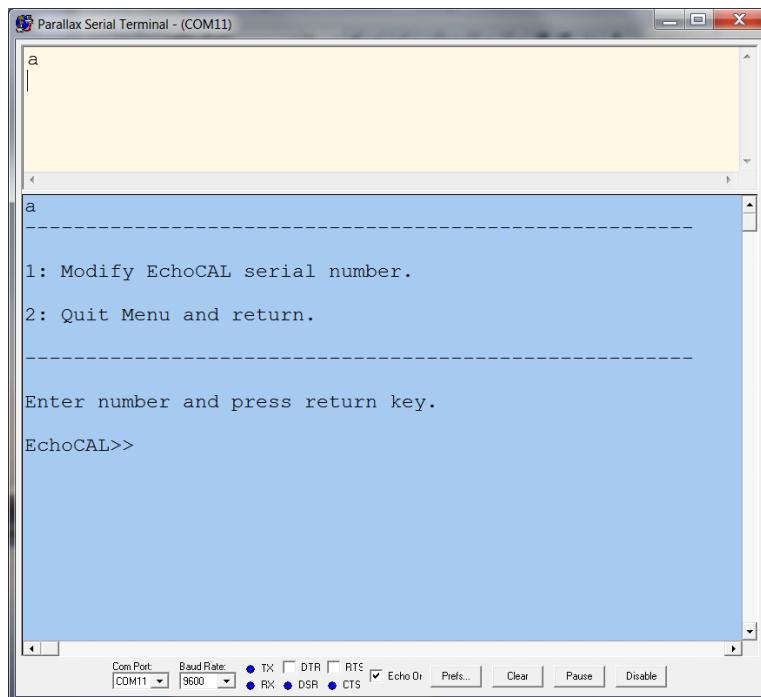

Figure 49: Accessing the microcontroller programming menu.
- e. Type the character "a" without quotes, and press the return key. You should see a menu similar to the following (Figure 49):